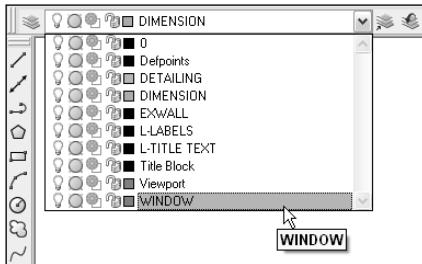

Figure QS-1: Choose the WINDOW layer from the list of layers.
- From the Layer Control drop-down list on the Layers toolbar, as shown in Figure QS-1, click the down arrow and choose WINDOW. (Layers allow you to organize your drawing; I cover them in detail in Chapter 11.) Anything you draw will now be on the WINDOW layer.